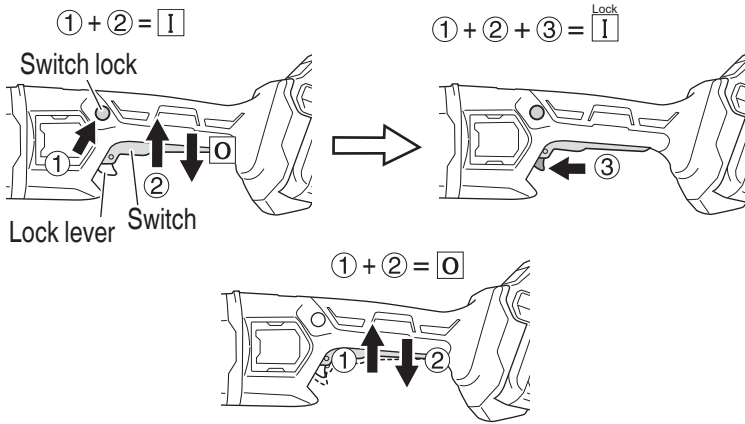

Fig. 11
- Turn the grinder "on". (Fig. 11)
Switch operation (Fig. 11)